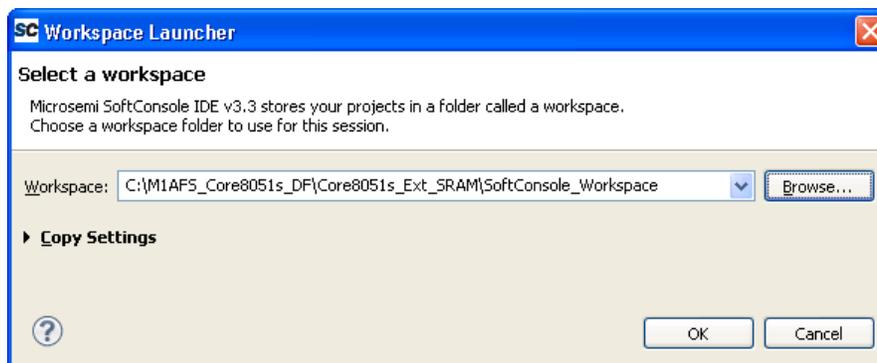

Figure 15 Selecting SoftConsole Workspace
- Open **SoftConsole** and launch new workspace, as shown in Figure 15.